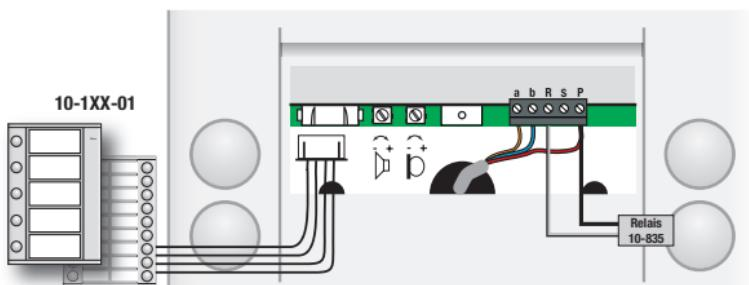

Fig. 3: connection terminals and volume control
Insert the cable (minimum of one pair) through the opening provided at the back of the external audio unit. Mount the external audio unit at a height of 140 to 150 cm using the mounting holes provided for this purpose. If using a three-wire connection, connect three wires from the cable to terminals a, b and P of the external audio unit (fig. 3).
**Optional,** you can connect an additional door opener relay (10-835) to the external audio unit. Terminals P and R are provided for this purpose (fig. 3).